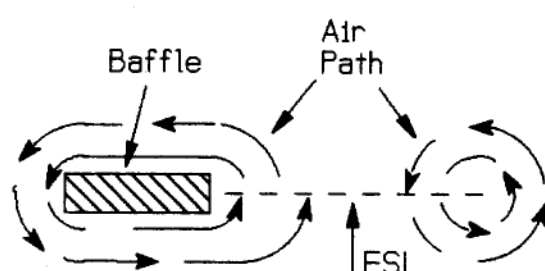

FIGURE 4-10: Baffle operation.
**BAFFLES.** A baffle is a passive extension on the speaker that lengthens the path the sound wave travels (Fig. 4-10).